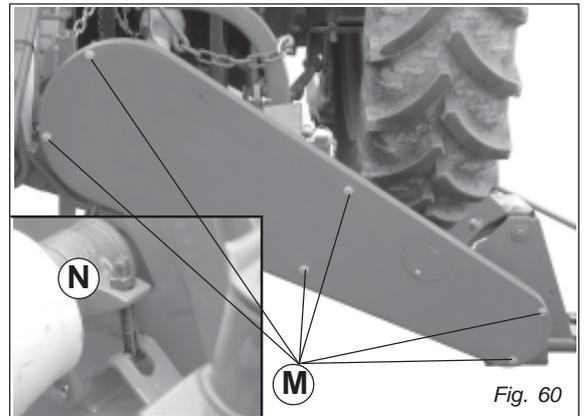

Fig. 60
- Unscrew the screws (A Fig. 60) and remove the protective casing.
- Loosen the belt tensioner completely (B, Fig. 60).
- Put the protective casing back in position and fix it in place with the screws (A, Fig. 60).
- Unscrew the screws (M, Fig. 60) and remove the protective casing.
- Loosen the belt tensioner completely (N, Fig. 60).